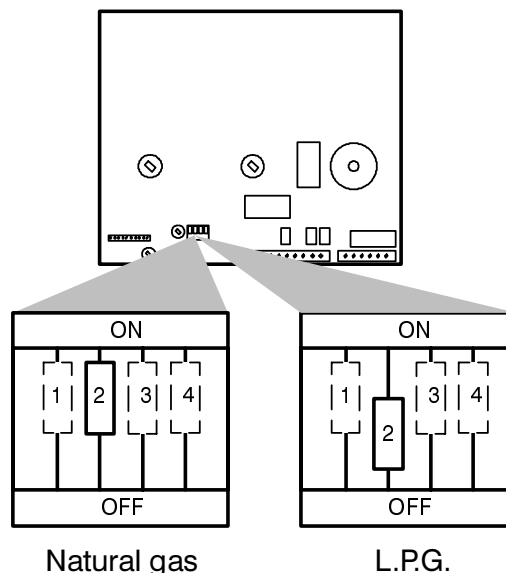

fig. 5.2
- 8 set correctly the dip-switch "2" (fig. 5.2) in accordance with the following table.